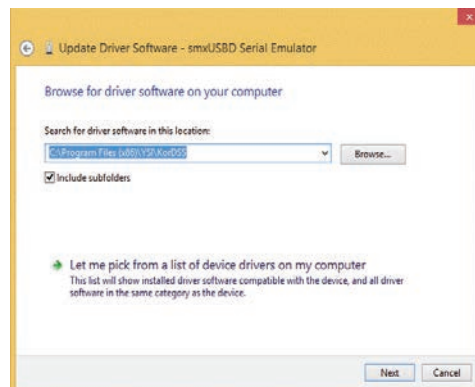

Figure 84 Driver location Windows 8/8.1
11. Click **Browse**, then navigate to the file location: **C:\Program Files (x86)\YSI\KorDSS** for 64 bit systems or **C:\Program Files\YSI\KorDSS** for 32 bit systems (Figure 84). Click **Next**.